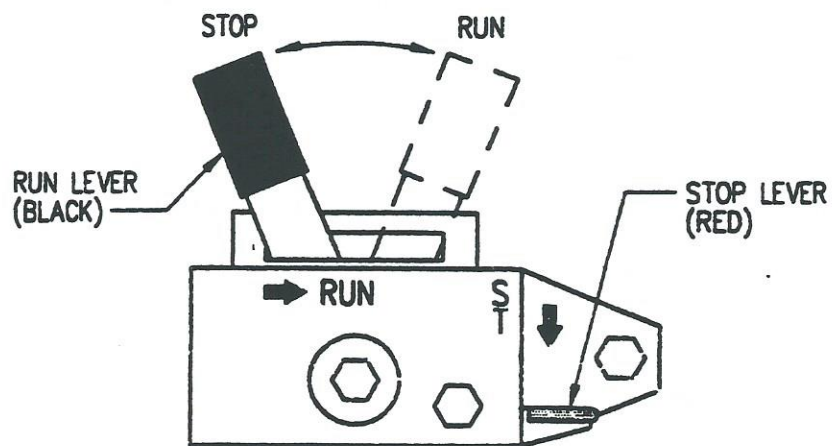

Figure 29..Engine RUN and Stop Controls
8. Move engine RUN lever to RUN position. (Figure 29)
7. Move engine RUN lever to RUN position. (Figure 29)
2. Press engine STOP lever. (Figure 29)